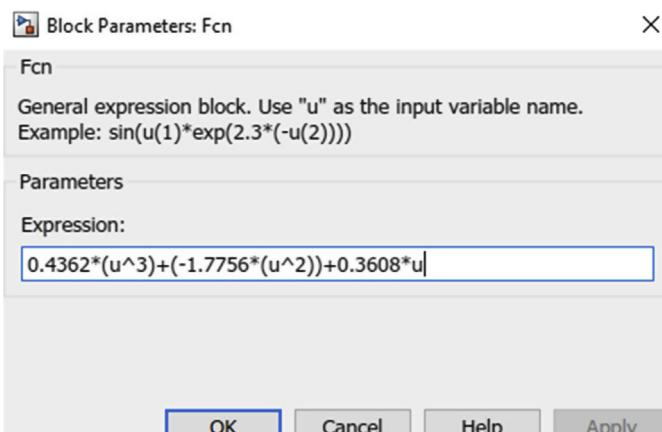

Figure 10.25 Second piecewise function.
- Double click on the **Fcn** block and insert the second piecewise function developed in the previous section as shown in Fig. 10.25.